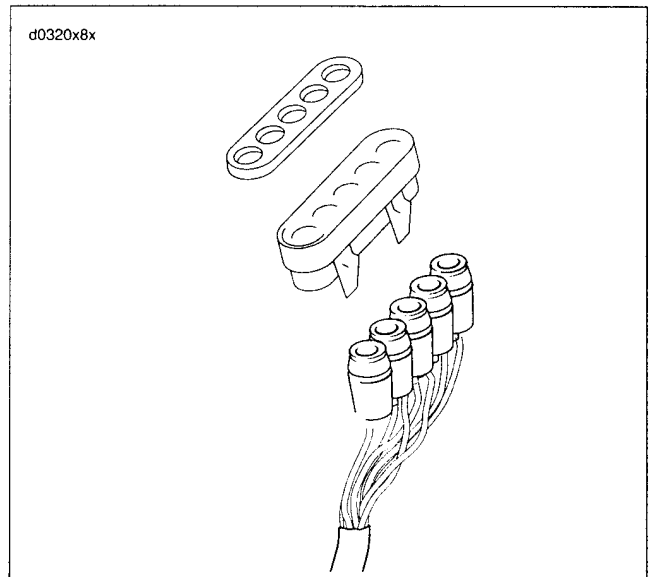

Figure 8-61. Indicator Lamps: FXDL
- b. FXDL vehicles: disconnect indicator lamp connector [21]. Cut cable straps as required around conduit. Remove wires from connector. See Figure 8-61.